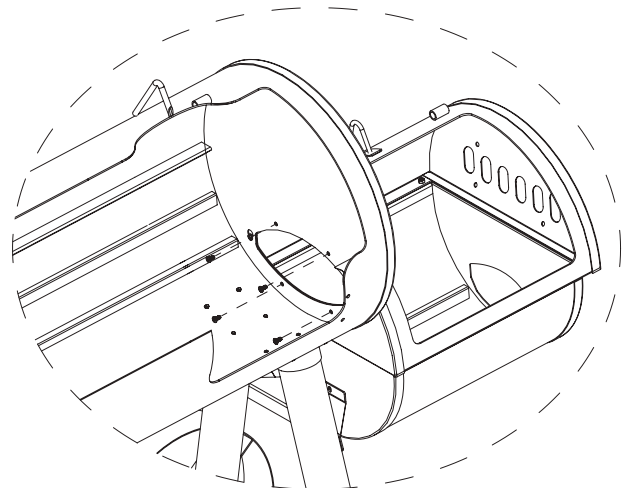

fig. 12b
- Secure using 4xM6-15mm bolts into the Cooking Chamber (11) as per fig.12b.